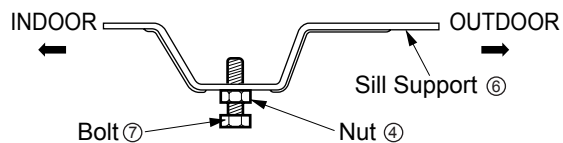

Fig. 3
3. Cut the window sash seal to the proper length. Peel off the backing and attach the Foam-PE to the underside of the window sash. (Fig.3)
3. Loosely assemble the Sill Support® using the parts. (Fig. 3)